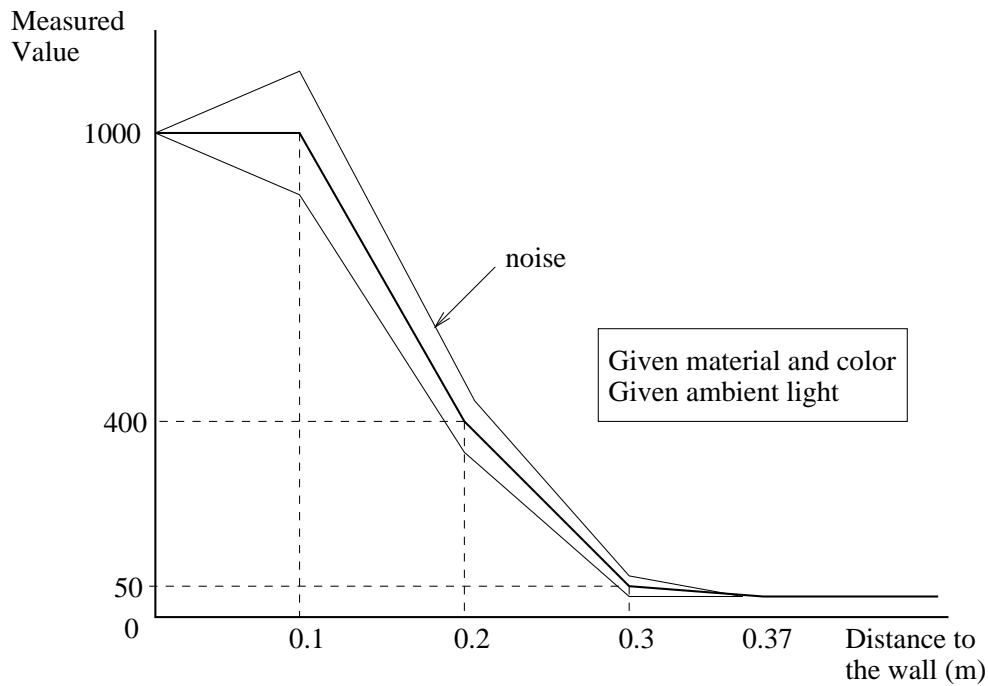

Figure 2.4: Measurements of the light reflected by an obstacle
- `lookupTable`: This field is best explained through an example: Let us consider an infra-red sensor. The noise on the return value is computed according to a uniform random numbers distribution which range is calculated in percent of the response value. For an obstacle made of a given material and color and for a given ambient light, the response of the sensor is as shown in figure 2.4